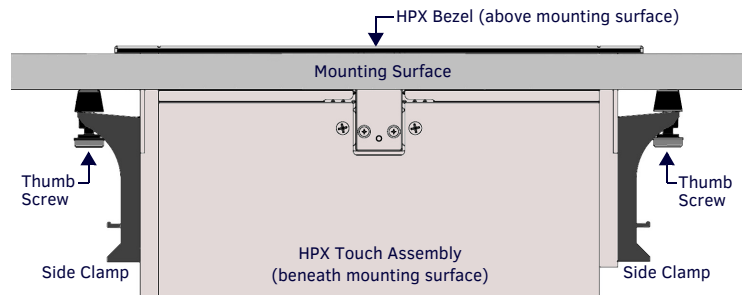

FIG. 7 TIGHTEN THE SIDE CLAMPS TO SECURE THE HPX TO THE MOUNTING SURFACE
- Tighten the thumb screws on all four Clamps to secure the HPX assembly to the mounting surface (FIG. 7):